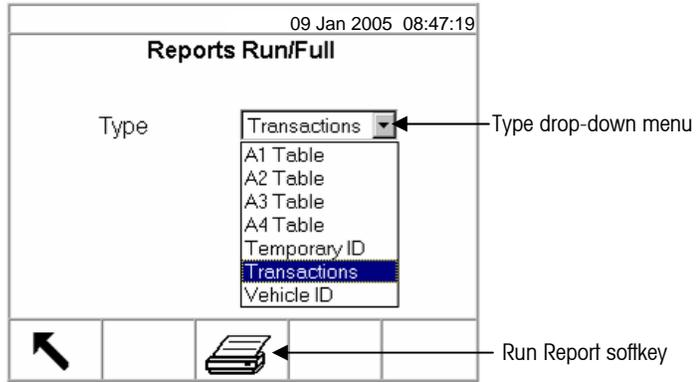

Figure 2-17: Reports Run/Full Screen
1. Press the RUN REPORT soffkey. The Reports Run/Full screen displays (see Figure 2-17).